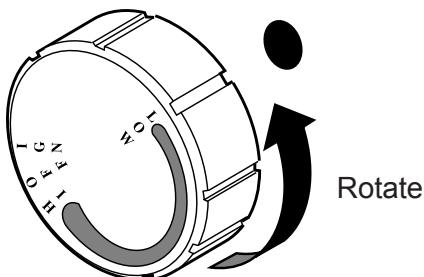

Figure 32 - Rotation of Control Knob
6. Turn the gas control knob counterclockwise to the IGN position. See Figure 32. Push in and hold control knob for 5 seconds.
10. Turn control knob to any position between LOW and HIGH. The knob position controls the thermostat temperature. See Figure 32.